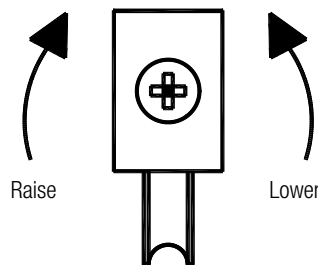

FIG. 20
- B) Slide the lock side of the active panel within 1/16" from the side jamb interior stop. The gap between the edge of the panel and inside stop must be consistent along the vertical length of the panel. If this is not the case with your unit, you must make adjustments to the rollers. The rollers can be adjusted with a screwdriver on the screws located at the base, on the edges of the panel. Turning the screw in one direction will raise or lower that side of the panel. Make your final adjustments. (Fig. 20) Taking the weight off the rollers will allow for easier adjustment.